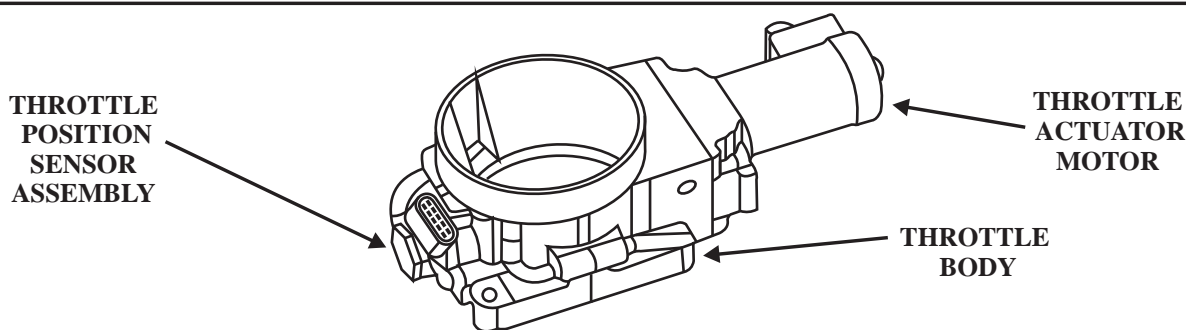

Figure 72
- The **Throttle Body** contains the **Throttle Position Sensor Assembly** (See Figure 72) which contains two throttle position sensors and are used to determine throttle plate angle. The throttle body also contains the **Throttle Actuator Motor** (See Figure 72). This electric motor opens and closes the throttle plate. The throttle plate is spring loaded in both directions with the default position being slightly open.
- The Throttle Position Sensor assembly is faulty, (Refer to Figure 72).
- The throttle plate actuator motor is faulty, (Refer to Figure 72).
- Binding of the throttle plate in the throttle body, (Refer to Figure 72).
- The Throttle Position Sensor assembly has a mechanical problem, (Refer to Figure 72).
- The Throttle Plate Actuator Motor is mechanically faulty, (Refer to Figure 72).